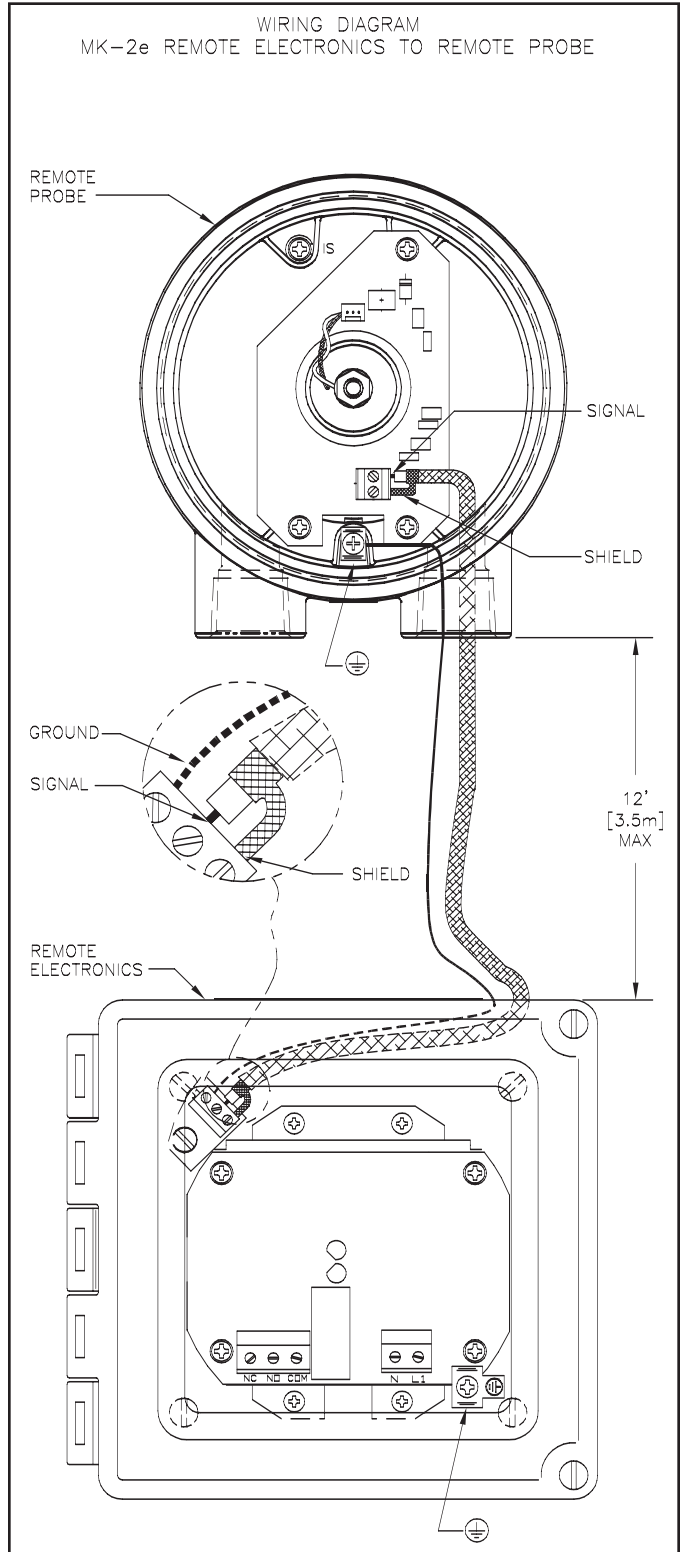

Figure 10
**Split Architecture: (See Figure 10)**